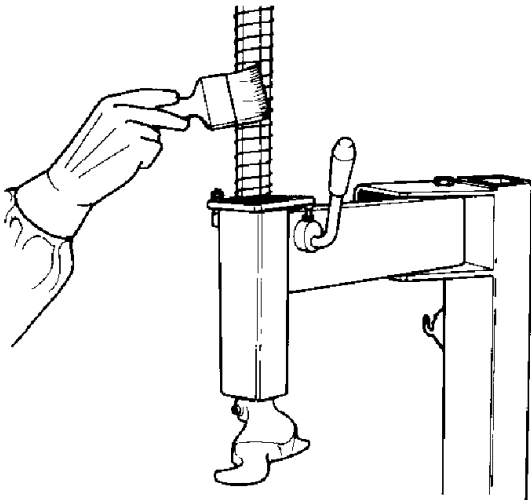

Fig.27
**A.** Periodically clean the vertical hexagonal rod with nonflammable liquid detergent. After this immediately lubricate with a light lubricating oil (Fig.27).